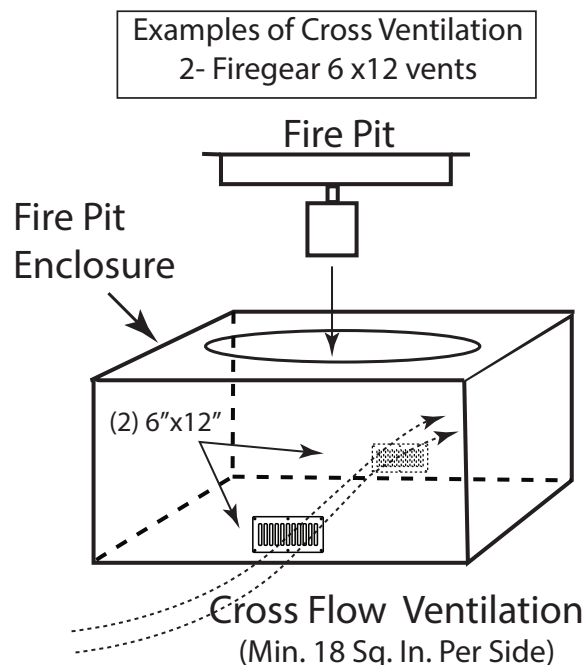

Figure 3. Cross Ventilation Example
**NOTE:** Do not place fire pit directly on grass, dirt, or rocks this may prevent proper ventilation (Fig. 3, pg. 4).
Fire pits are subjected to many outdoor elements such as rain, snow, wind, heat or cold. **A minimum of 18 square inches of cross ventilation (2 sides) is required to keep the components in good working order.** Use figure 3 as guide